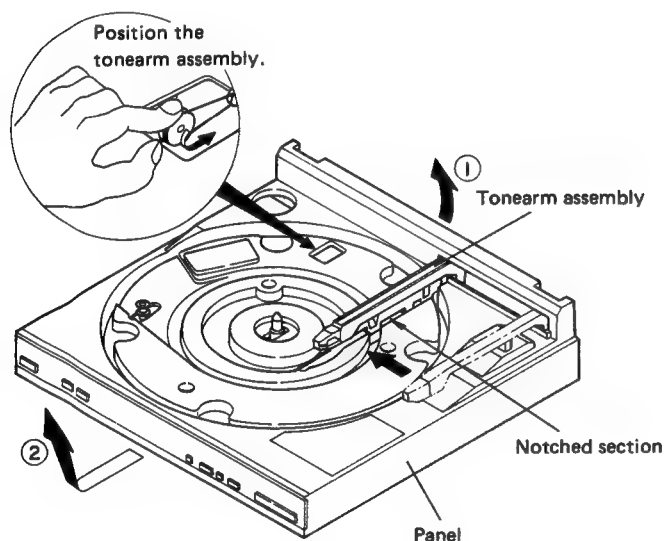

Fig. 11-1 Panel Removal
3. Either manually or using the Arm Locate switch (▶▶), position the tonearm just above the section notched for panel removal (see Fig. 11-1).
4. After removing the 8 securing screws (1), lift up the rear section of the panel assembly, remove the tonearm assembly from the notched section and remove the panel assembly by lifting it up and pulling forward.